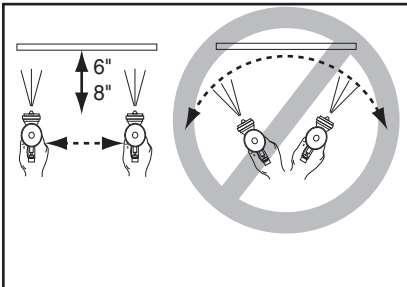

Figure 5. Spray technique.
9. Keep the gun tip perpendicular, parallel and 6-8" from the work at all times when spraying as shown in **Figure 5**. Do not allow your wrist to bend. This will cause the gun to arc across the surface and distribute the material unevenly, possibly creating sags and dry spots.